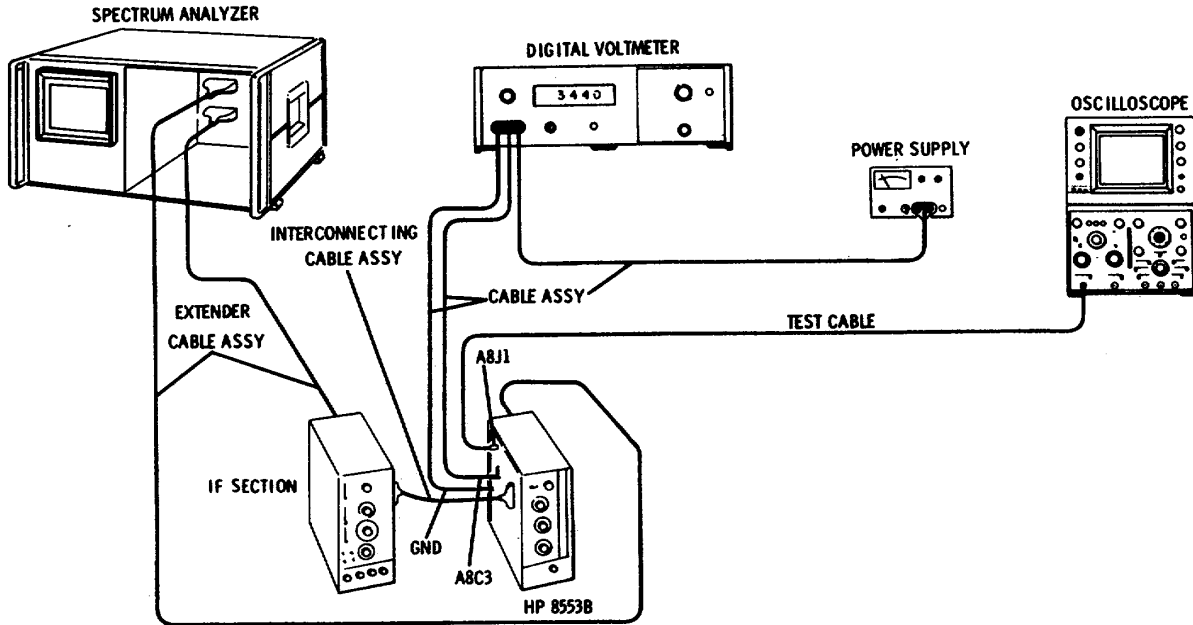

Figure 5-9. 100 kHz Reference Oscillator Check Test Setup
1. Connect the setup in Figure 5-9 and make the following control settings: